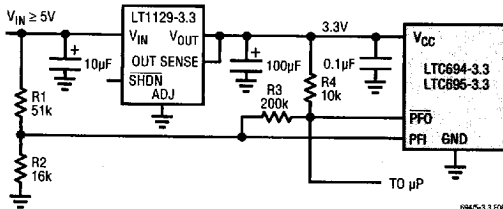

Figure 8. Monitoring Unregulated DC Supply with the LTC694-3.3/LTC695-3.3's Power Fail Comparator
$\overline{\text{PFO}}$  goes low when the voltage at the PFI pin is less than 1.3V. Typically PFI is driven by an external voltage divider (R1 and R2 in Figures 8 and 9) which senses either an unregulated DC input or a regulated 3.3V output. The voltage divider ratio can be chosen such that the voltage at the PFI pin falls below 1.3V several milliseconds before the 3.3V supply falls below the maximum reset voltage threshold 3.0V.  $\overline{\text{PFO}}$  is normally used to interrupt the microprocessor to execute shutdown procedure between  $\overline{\text{PFO}}$  and RESET or RESET.
The power fail comparator, C3, does not have hysteresis. Hysteresis can be added however, by connecting a resistor between the  $\overline{\text{PFO}}$  output and the noninverting PFI input pin as shown in Figures 8 and 9. The upper and lower trip points in the comparator are established as follows:
**Example 1:** The circuit in Figure 8 demonstrates the use of the power fail comparator to monitor the unregulated power supply input. Assuming the rate of decay of the supply input  $V_{IN}$  is 100mV/ms and the total time to execute a shutdown procedure is 8ms. Also the noise of  $V_{IN}$  is 200mV. With these assumptions in mind, we can reasonably set  $V_L = 5V$  which is 1.6V greater than the sum of maximum reset voltage threshold and the dropout voltage of the LT1129-3.3 (3V + 0.4V) and  $V_{\text{HYSTERESIS}} = 850mV$ .